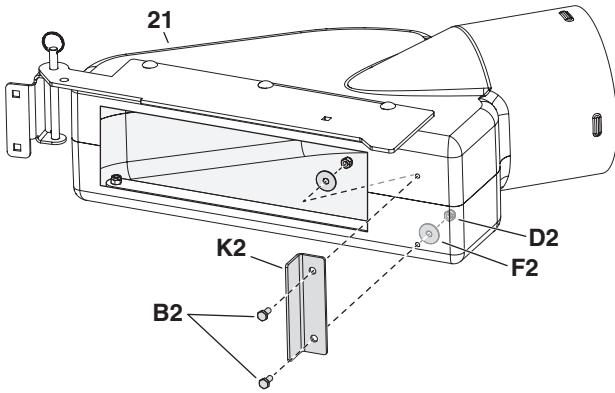

FIGURE 32
- Use of the boot rear angle (K2) is dependant on the size of the mower deck opening. If mower deck opening is too large, skip this step. Position boot rear angle (K2) and deck adapter (21) so that boot rear angle (K2) is at the rear edge of the mower deck opening. Mark holes on the deck adapter (21) and drill. Attach boot rear angle (K2) using two 1/4" x 5/8" bolts (B2), 1" washers (F2) and 1/4" nylock nuts (D2). See figure 32.